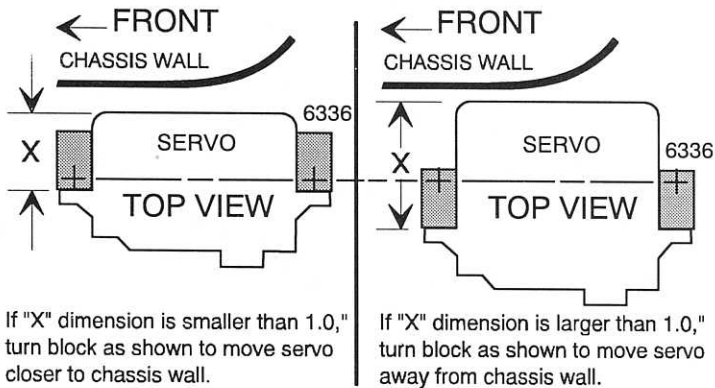

Fig. 129
□ Figs. 129, 129a, 130 & 131 1) Remove the two #6336 nylon servo mounting blocks and two #6292 4-40 x 3/8" flat head socket screws (also in bag #8-6). 2) We are going to mount the servo blocks to the chassis, which will involve some measurements on your part. The mounting hole in the one end of the block is offset so we can adjust the mounting position for different servos. See fig. 129. Measure the servo from the back of the mounting tabs to the end of the servo. If the distance is 1.0" or less, mount the blocks so that the major portion is toward the passenger or right side). 3) If the measurement is greater than 1.0" then mount the blocks so that more of the block is toward the driver's or left side. 4) Next we must drill a hole in each block in the proper place to secure the servo. Now line the blocks up parallel and place the servo between the mounts, making sure the output shaft is towards the rear of the car (fig. 131). Center the servo between the blocks and mark the center of the two **top** mounting holes on the servo using your X-acto© knife.